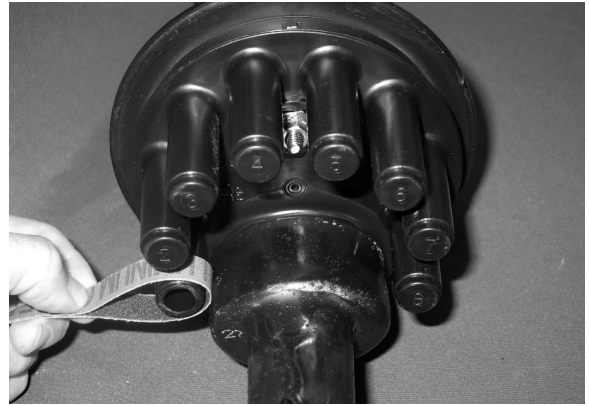

Figure 4
3. Clean and abrade port with abrasive strip (Figure 4).